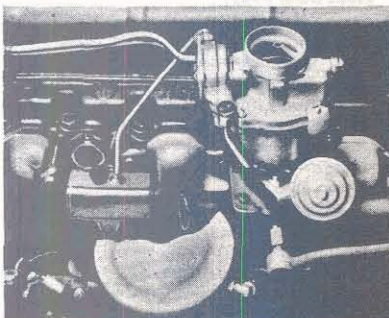

FIGURE 5
2. Mount manifold stove assembly on exhaust manifold between No. 1 and No. 2 exhaust ports so that hot air tube connection is offset slightly towards the rear of the engine (Figure 5). Do not tighten retainer screw securely until tube installation is made.